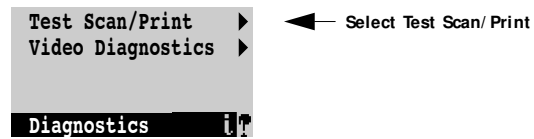

FIGURE 5-11 Test Scan/Print command
4. At the screen shown in Figure 5-11, select **Test Scan/ Print**.